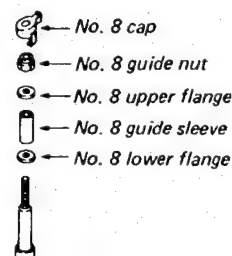

Fig. 1-3-20 No. 8 guide replacement
1. Remove No. 8 cap through the No. 8 lower flange in this sequence as shown in Fig. 1-3-20. When reassembling, perform the previous steps in reverse order.